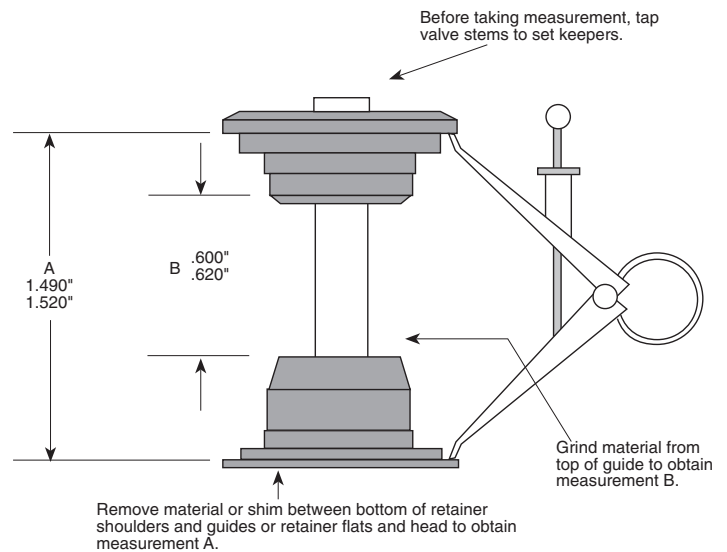

Figure 1
1. Assemble one valve at a time using stock bottom retainer, valve guide seal (if equipped with seal), S&S aluminum top retainer and stock Harley-Davidson® keepers as shown in **Figure 1**. Tap valve stem with soft hammer at top retainer to seat stem and keepers.
3. Measurement A will normally fall in range shown in **Figure 1**. This range will provide enough clearance to run cams with lifts as high as .550".
4. Measurement B will normally be less than .600" to .620" shown in **Figure 1**. This range will provide enough clearance to run cams with lifts as high as .550". Subtract measurement B recorded earlier from .610" for each valve and grind tops of valve guides. Remove only the difference in measurements. Carefully remove burr on inside diameter of guides before installing valves so as not to scratch valve stems. Just barely break corners on outside diameters of exhaust guides. Contour outside diameters of intake guides in engines equipped with valve guide seals to original shapes. Cam installations with lifts greater than .550" require measurement B to equal cam lift plus .050" to .070". Example: Cam to be used has lift of .575". Measurement B = .575" + (.050" to .070") or .625" to .645".